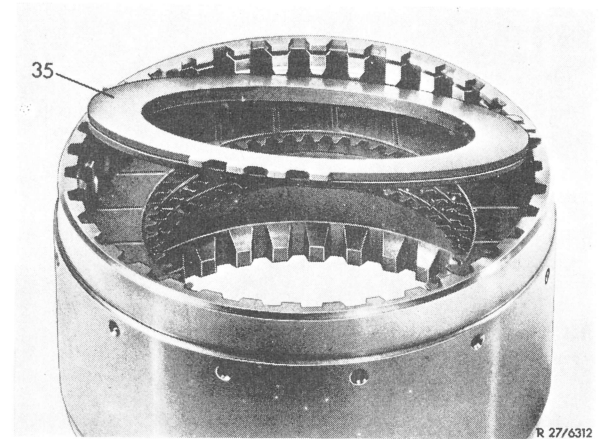

Fig. 7
11 Insert plate assembly into outside plate carrier, with the offset end of the outside plates (35) facing downwards (Fig. 7).